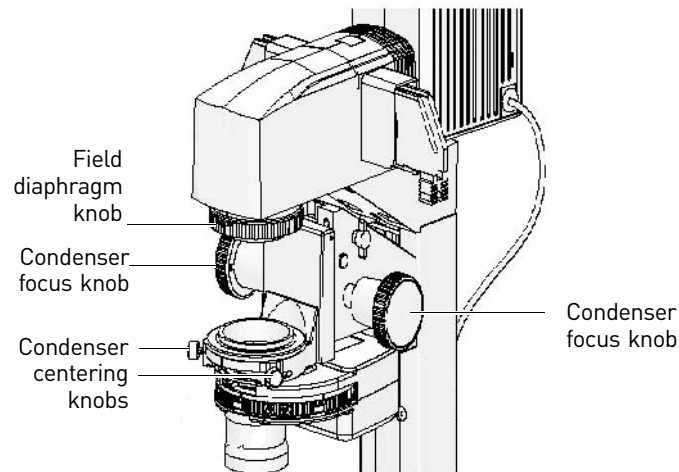

Figure 28 Phase contrast components
Figure 28 shows the phase contrast components for a T-DH diillumination 100W and LHS-H100P-1 120V100W lamphouse.
4. Close down the field aperture diaphragm, located in the illumination tower (see Figure 28), until the field diaphragm appears in the field of view.